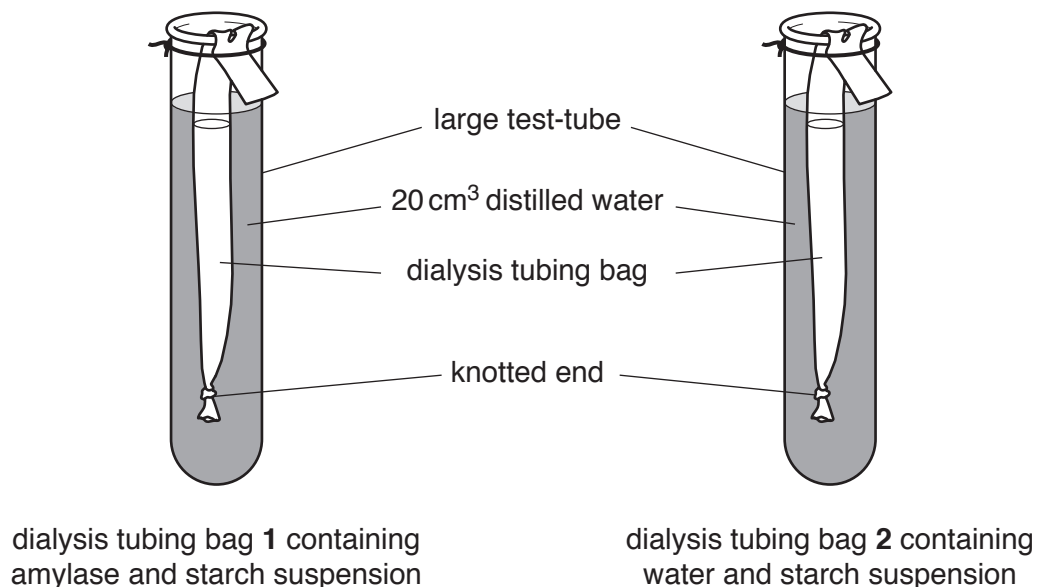

Fig. 1.1
- Step 7 The dialysis tubing bags were placed into the large test-tubes as shown in Fig. 1.1.